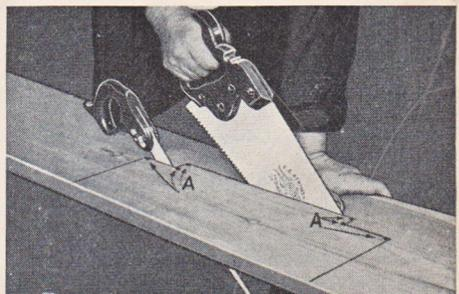

Fig. 40—Cutting drawer opening in bench apron with Rip Saw; showing 3/8" holes bored at A, and the use of Compass Saw in starting the cut
Step 6—Cut openings in the front apron for the drawer front and the hand holes. Verify measurement by the drawer front. (Fig. 40.)